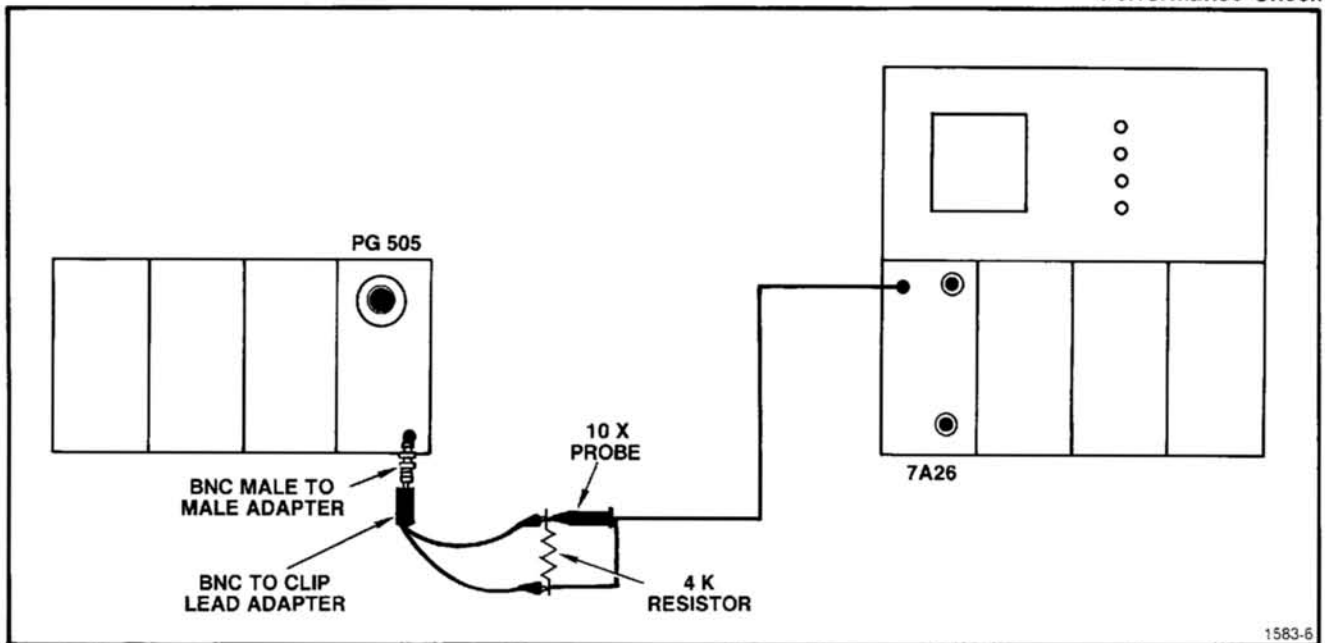

Fig. 4-1. Rise Time Check.
- Connect the equipment as shown in Fig. 4-1.
c. Connect the equipment as shown in Fig. 4-1.
b. Connect the equipment as shown in Fig. 4-1, but change to the $10 \text{ k}\Omega$ resistor instead of the $4 \text{ k}\Omega$ resistor and connect it from the TRIG OUT instead of from the OUTPUT of the PG 505.